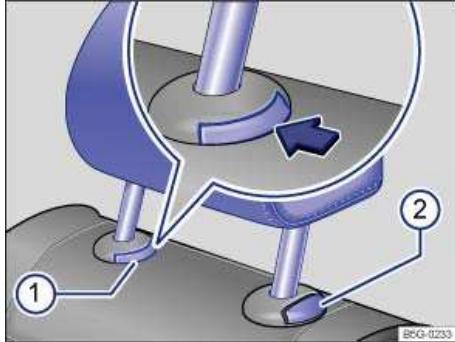
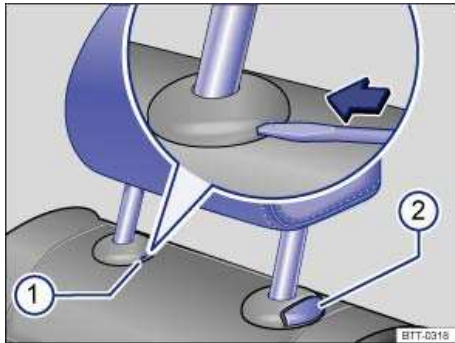

Fig. 40 Removing the rear head restraint (version A).
Fig. 41 Removing the rear head restraint (version B).
- Push button ⇒ fig. 40 \(1\) in the direction of the arrow and hold it in this position.
- At the same time press button (2) while a second person pulls out the head restraint completely.
- If necessary, press the flat blade of the screwdriver from the vehicle tool kit into the slit of the trim cap ⇒ fig. 41 \(2\) in the direction of the arrow and hold it in this position.
- Push the head restraint down while pressing button ⇒ fig. 40 \(2\) or ⇒ fig. 41 \(2\).